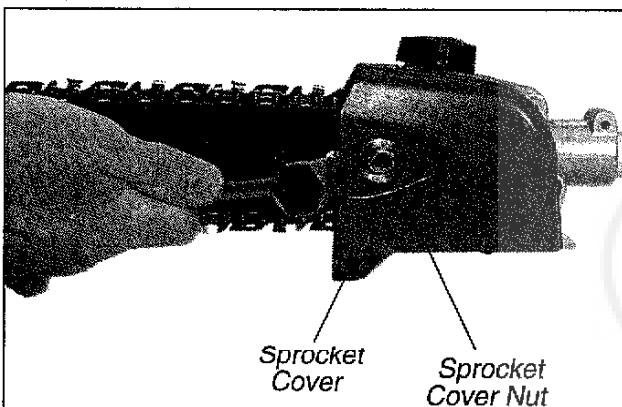

Figure 8
1. Using the small end of the plug wrench, remove the sprocket cover nut (turn counterclockwise to remove) and remove the sprocket cover. See Figure 8.